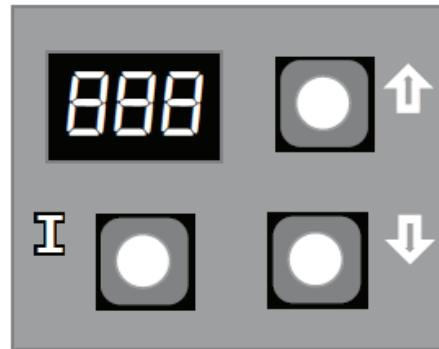

Figure 1 Control Display
The control is located on the front panel inside the boiler. The control display, along with Up ▲, Down ▼, and “I” keys may be used to view boiler operating status and program parameters (Figure 1).
1. Press with Up ▲, Down ▼, and ‘I’ keys (see Figure 1) simultaneously for three seconds.